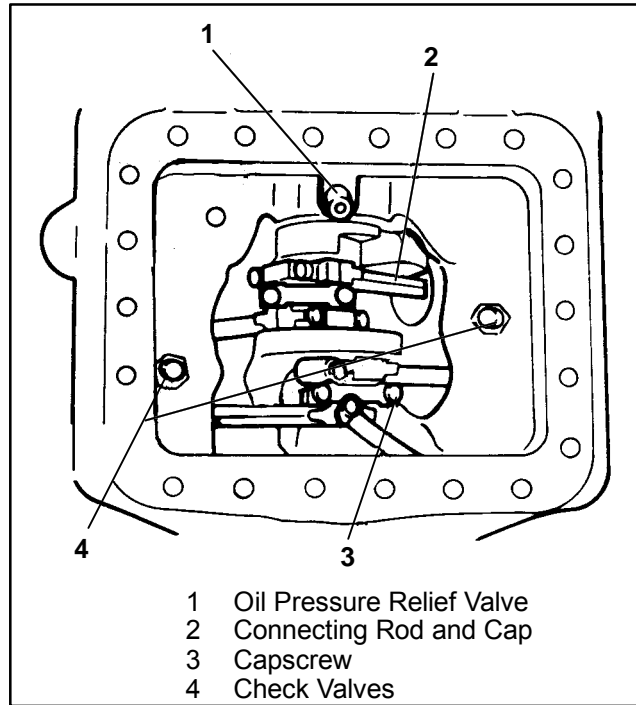

Figure 3-11. Bottom Plate and Oil Strainer Removed
be installed during compressor reassembly. (See Figure 3-11)
b. Remove and check operation of oil return check valves (See Figure 3-11). The check valves are free floating devices and can easily be checked visually.
c. Remove and check oil pressure relief valve (See Figure 3-11). The oil pressure relief valve is a spring loaded device which can be checked by using a small piece of stiff wire to ensure that the spring can be depressed.
- Check operation and reinstall check valves and relief valve. (See Figure 3-11). The check valves are free-floating devices and can easily be checked visually. The relief valve is a spring-loaded device which can